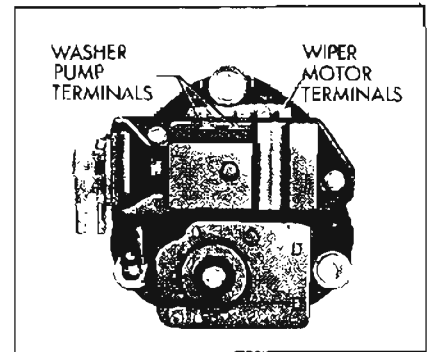

Figure 10-83—Windshield Wiper Motor—Two Speed
3. Move brushes away from armature and slide armature out of frame and field assembly. Pull end cap assembly off armature. See Figure 10-83.